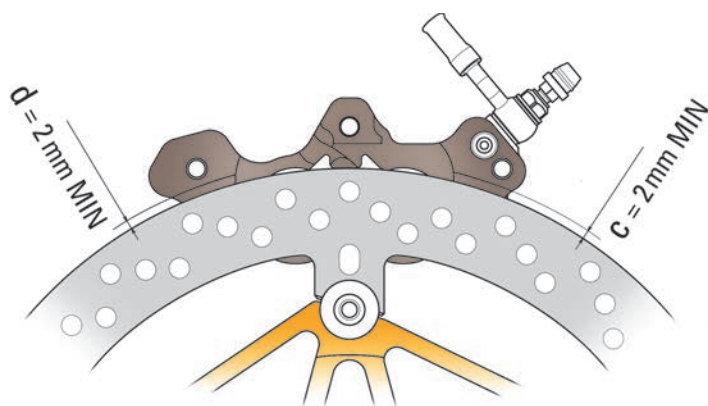

Fig. 2
- The clearance between disc outer circumference and caliper bridge must be 2mm MIN (see fig. 2).